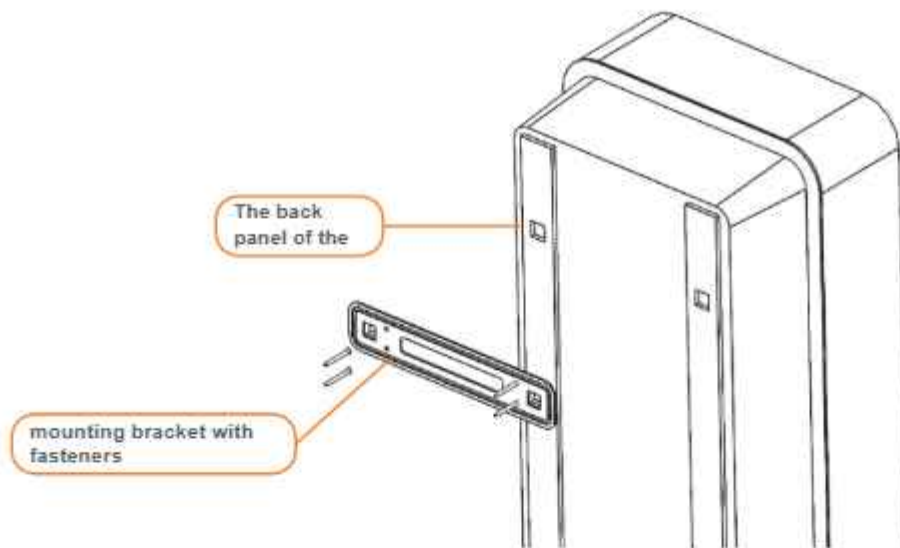
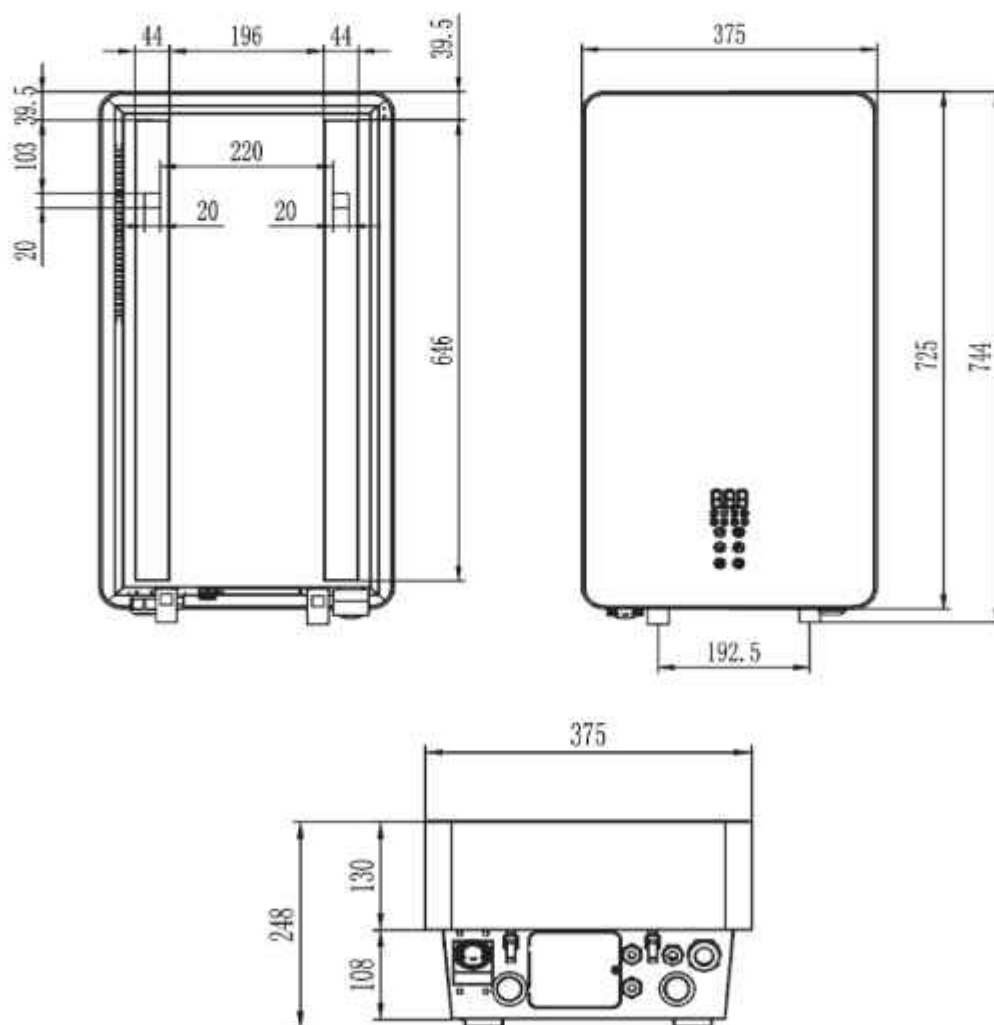

Figure 5 - The order of fastening the product.
Figure 6 - Basic dimensions.
5.1.6 Fastening of the product is carried out according to Figure 5. The main dimensions are shown in Figure 6.